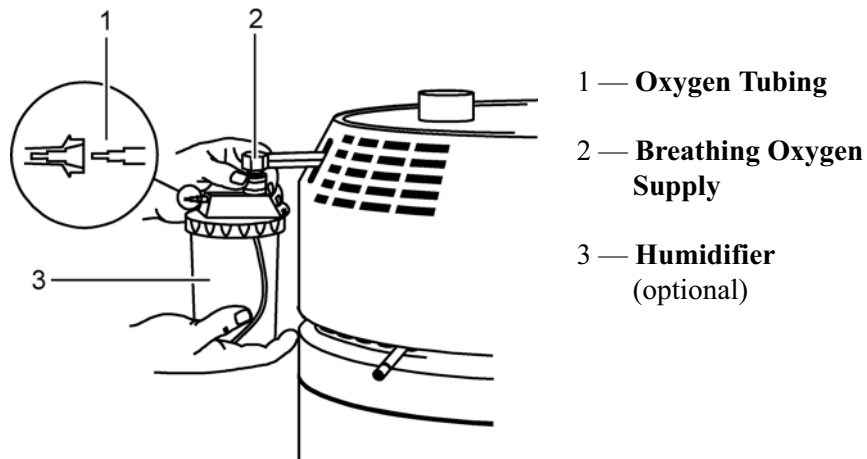

Figure 5: Preparing Stationary Unit for Breathing
1. If a *Humidifier* is used, fill it with distilled water to the level indicated on the humidifier's instructions. Attach the *Humidifier* to the *Breathing Oxygen Supply* fitting on the Stationary unit. (Figure 5).